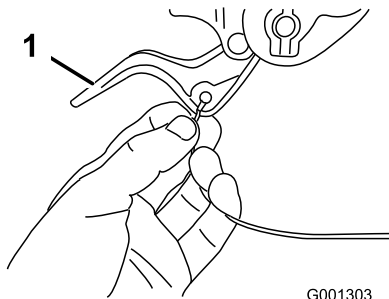

Figure 5
1. Route either the left or right cable end over the lower handle and insert the cable end into the hole in the corresponding wheel-clutch lever (Figure 5).